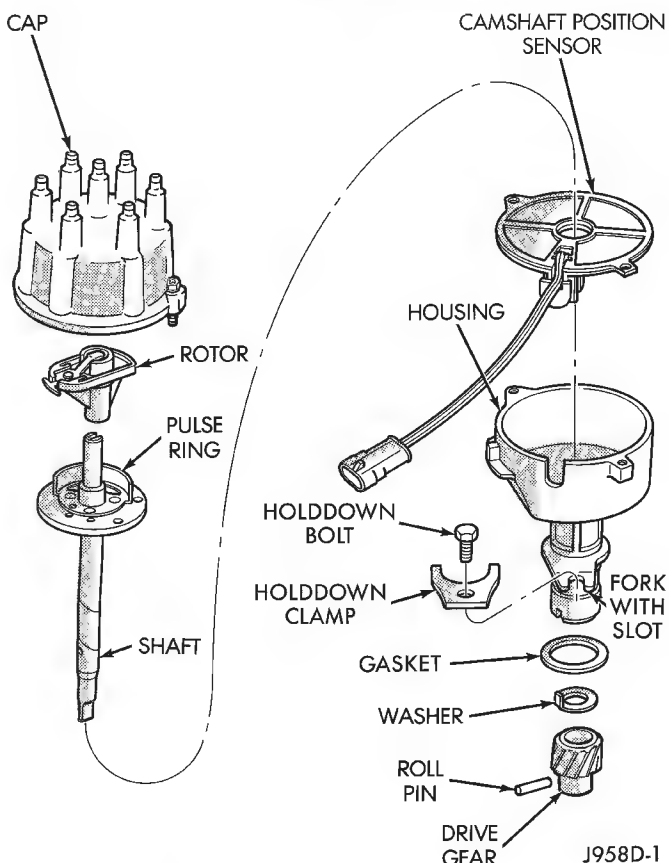

Fig. 8 Distributor—2.5L Or 4.0L Engines—Typical
The camshaft position sensor is located in the distributor on all engines (Fig. 8). For removal/installation procedures, refer to Camshaft Position Sensor. Distributor removal is not necessary for sensor removal.
Refer to figure 8 for an exploded view of the distributor.
A fork with a slot is supplied on the bottom of the distributor housing where the housing base seats against the engine block (Fig. 8). The centerline of the slot aligns with the distributor holddown bolt hole in the engine block. Because of the fork, the distributor cannot be rotated. Distributor rotation is not necessary as all ignition timing requirements are handled by the powertrain control module (PCM).
(7) Remove the distributor holddown bolt and damp (Fig. 8).
(8) Remove the distributor from engine by slowly lifting straight up.
(9) Remove and discard the old distributor-to-engine block gasket (Fig. 8).
(8) Clean the distributor mounting hole area of the engine block.
(9) Install a new distributor-to-engine block gasket (Fig. 8).
(10) Install the rotor to the distributor shaft.